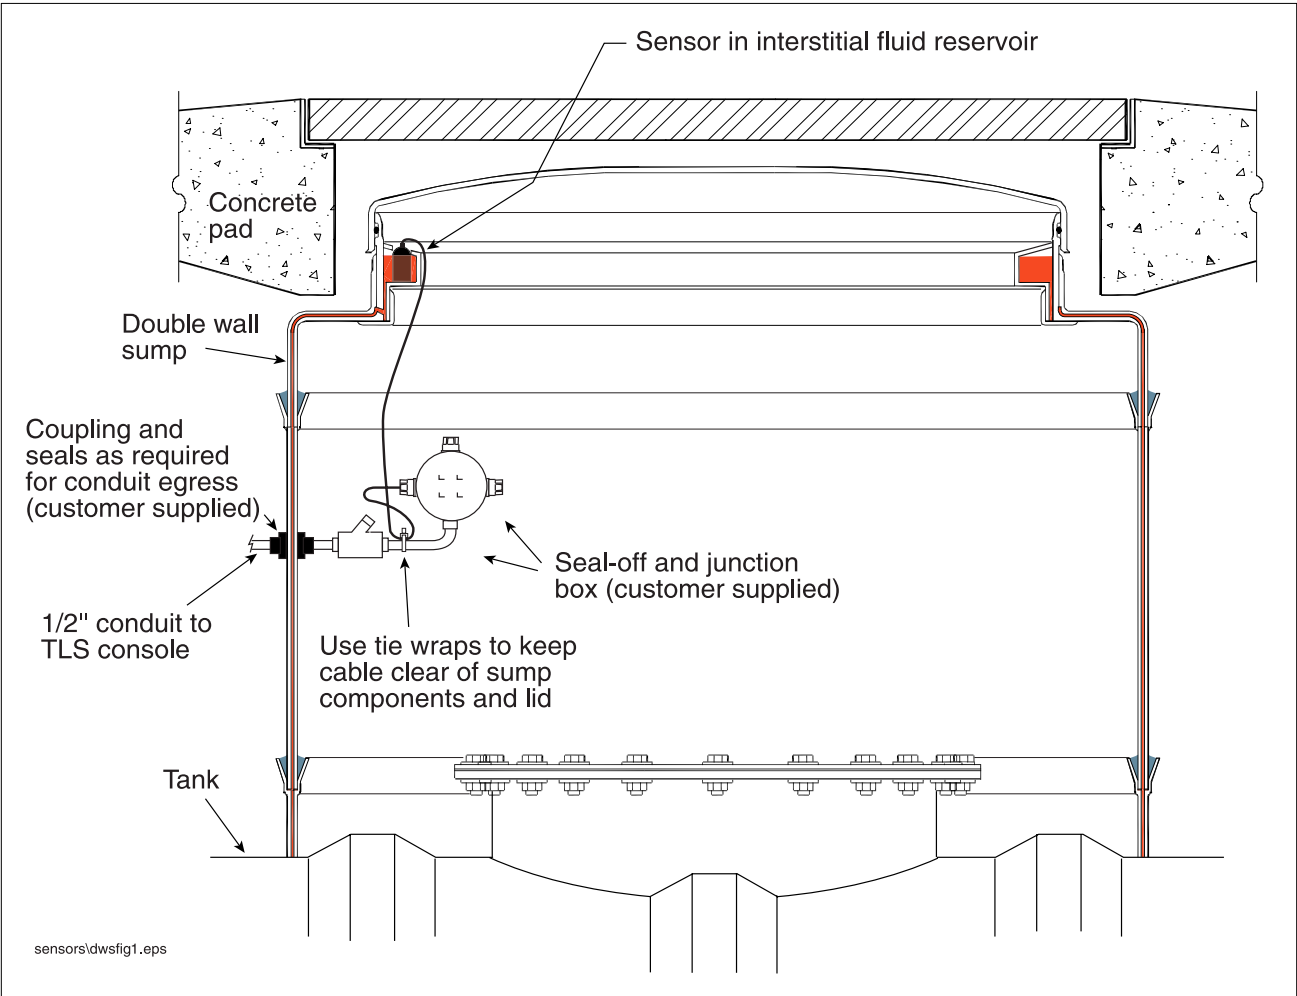

Figure 1. Example sensor installation
3. Lower the float switch assembly into the reservoir until it sits on the bottom of the reservoir as shown in the installation example in Figure 1. Note: the actual reservoir type and location will vary between sump manufacturers.